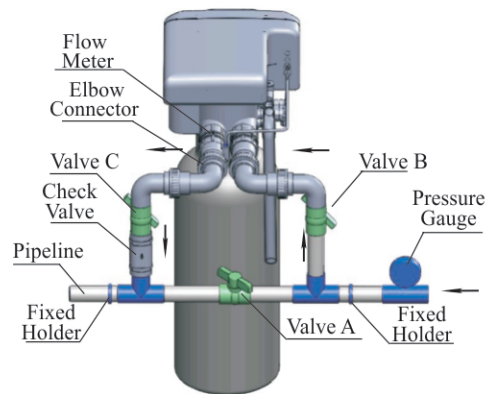

Figure 1-3
④ Pipeline connection
- As Figure1-3 shows, install a pressure gauge in the water inlet.